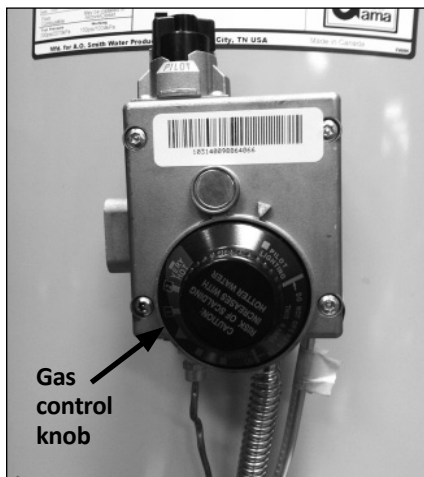

Figure 17 - Turn gas control/temperature knob OFF.
- 2 On the old water heater, turn the control knob on the gas control valve to the OFF position. See Figure 17.